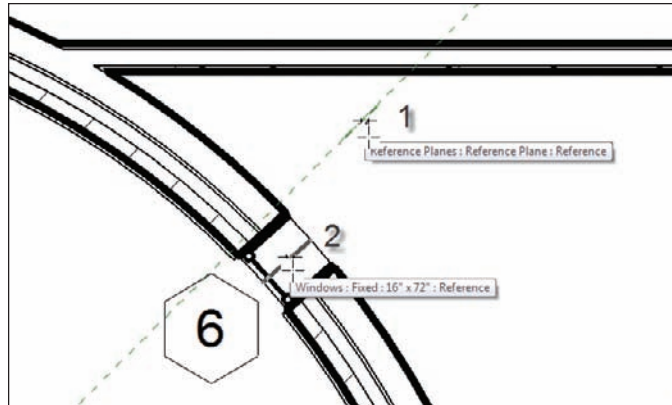

FIGURE 4.30 Choosing the items for alignment. Remember, you must choose the item you want to *align to* first.
6. The Align tool needs you to select two items to work. First select the item you want to align *to*; pick the reference plane as shown in Figure 4.30.